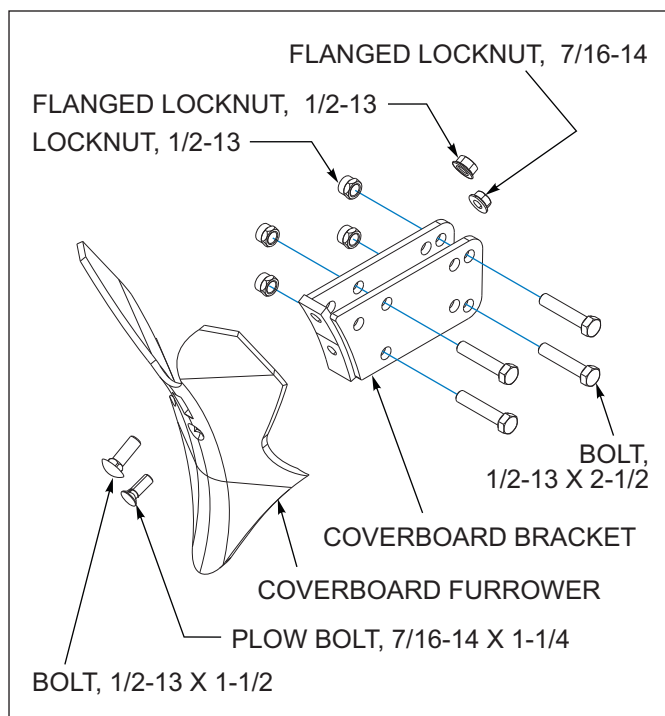

Figure 3-8: Coverboard Installation
2. Tighten the 7/16-14 Flange Nut to the 7/16-14 x 1-1/4 Plow Bolt before tightening the 1/2-13 Locknut to the 1/2-13 x 1-1/2 Roundhead Bolt. This is to ensure that the point of the Coverboard Furrower is pulled tightly against the Bracket. Make sure that the Plow Bolt Head is flush with the surface of the Coverboard Furrower. (See Figure 3-8.) This hardware should be tightened now.